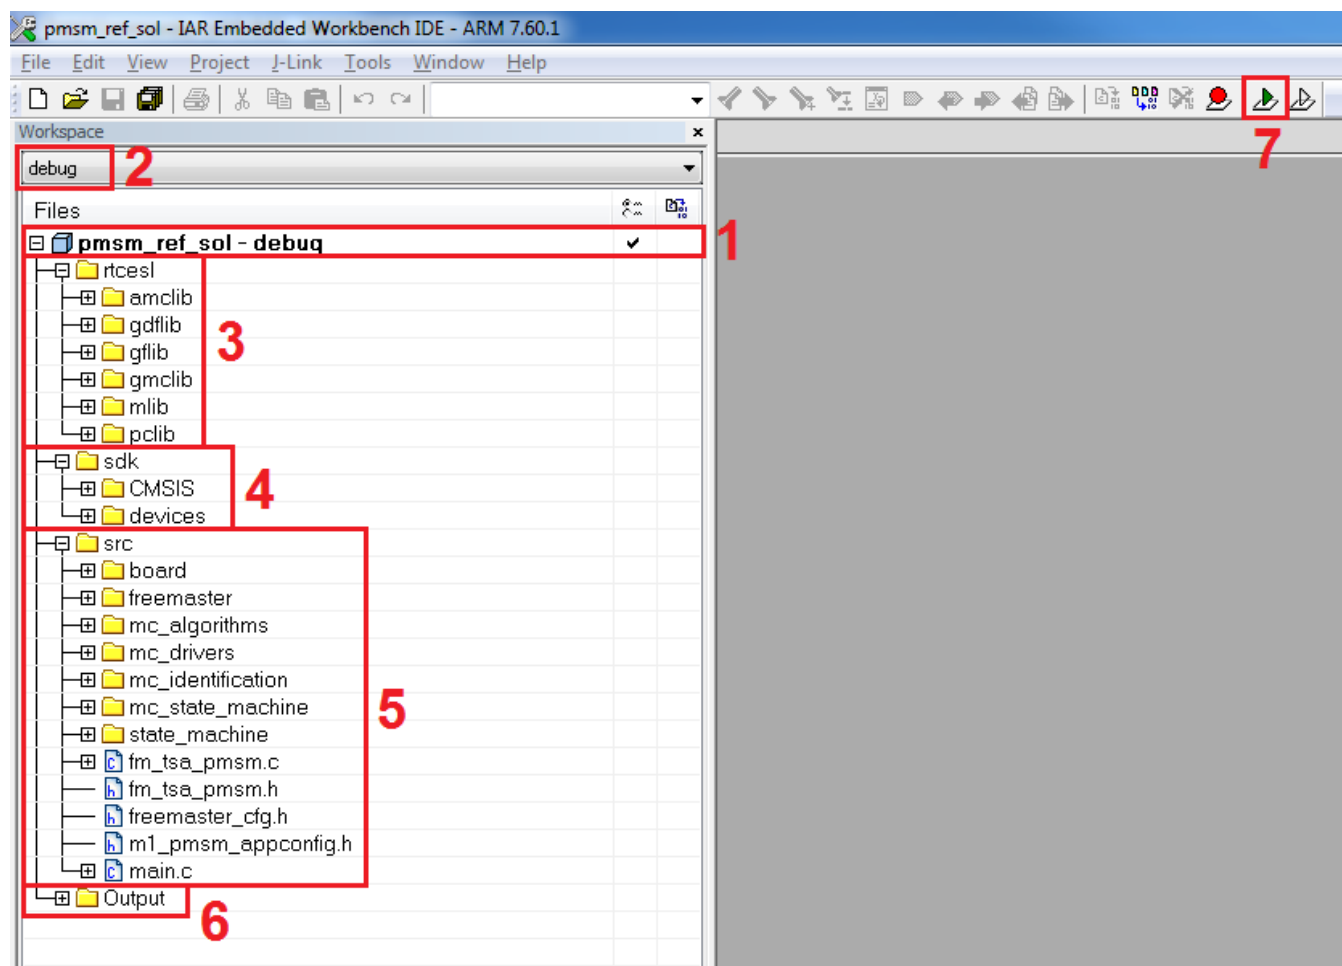

Figure 23. IAR Embedded Workbench
Use IAR Embedded Workbench IDE to compile and run the demonstration or solution projects. The first step is to choose the demonstration or solution project, development board, and MCU. For example, to run a demonstration project for the Freedom development platform and Kinetis KV10 MCU, the project is located in the *pmsm\_package/build\_demos/frdm-kv10z/iar* folder, which contains all necessary files. Double-click “*projects\_demos\_frdm-kv10z.eww*” to open this project. The point 1 in Figure 23 shows the IAR workspace with “*projects\_demos\_frdm-kv10z*” opened.
The project opened in IAR Embedded Workbench is fully configured and includes all necessary source and header files required by the application, such as startup code, clock configuration, and peripherals configuration. You can choose between two compiling conditions (“debug” or “release”), shown in Figure 23, point 2. Each of the two conditions has its own setting:
The source code shown in Figure 23 includes these source files and folders:
- Point 6—shows the output file generated by the compiler, and ready to use with the default debugger (P&E Micro – OpenSDA). This debugger is set as default for Tower boards, and can be changed in project options by right-clicking Point 1, selecting “Options”, and clicking “Debugger”. Start the project debugging by clicking Point 7 (Figure 23).